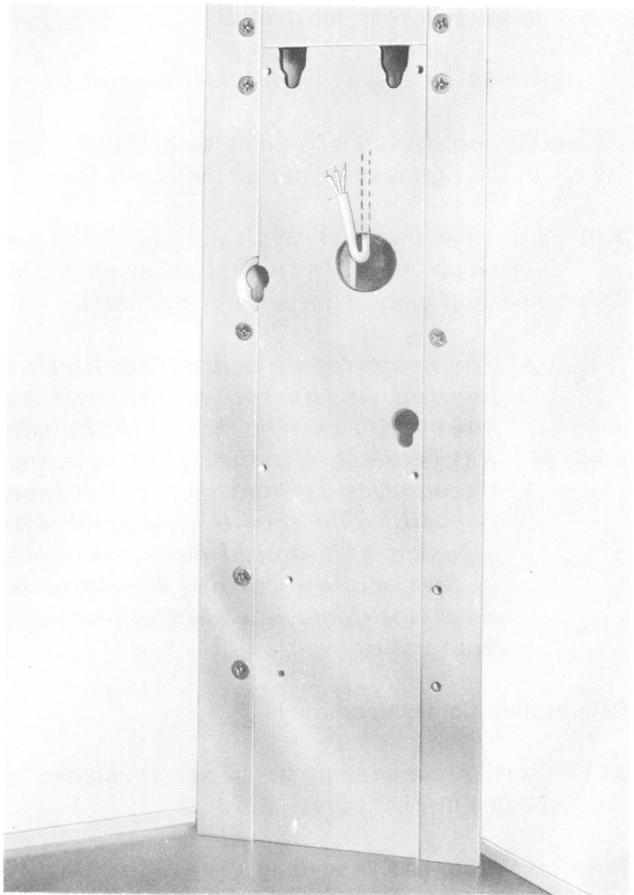

Fig. 14—Station Wiring
3.11 Station connection wires are furnished as shown in Fig. 14.